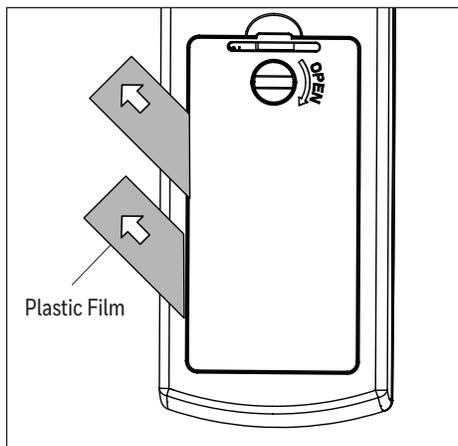

Figure 4.8
8. Batteries were preinstalled in the battery compartment of the remote in remote pack. Pull the plastic film in the direction of the arrow to remove which will activate the batteries (Figure 4.8).